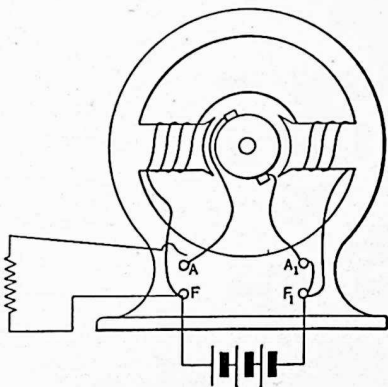

Fig. 169. Test for low residual magnetism.
**(6) Test for Low Residual Magnetism.** Connect up the machine as at the start, but leaving open one field connection (A) to the armature, Fig. 169. Connect in a few dry cells so as to send a current through the field while this connection (A) to the armature is open. Start the machine and, if the voltage begins to pick up when the remaining field connection is made, pull the dry cells out. If not, try connecting the cells to send the current in the reverse direction through the fields.